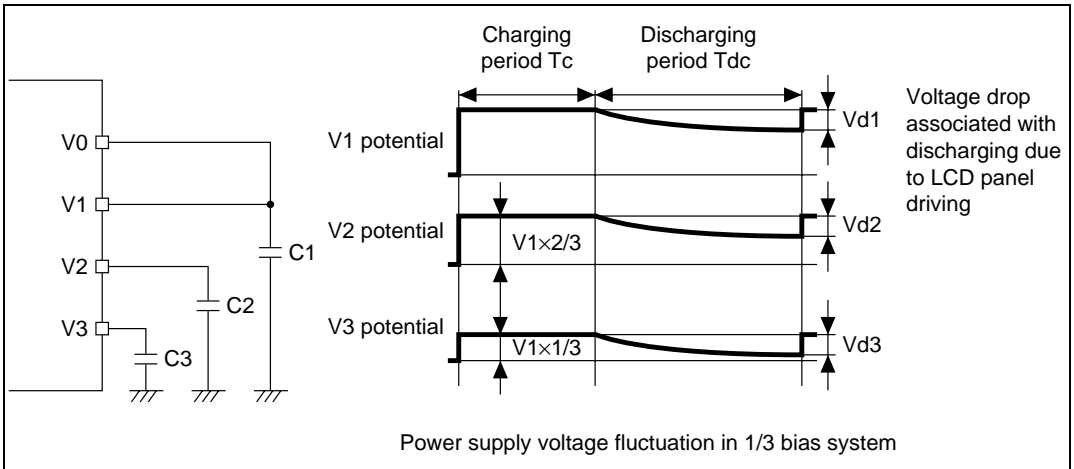

Figure 13.14 Example of Low-Power-Consumption LCD Drive Operation
1. Capacitors are connected as external circuits to LCD power supply pins V1, V2, and V3, as shown in figure 13.14.
2. The capacitors connected to V1, V2, and V3 are repeatedly charged and discharged in the cycle shown in figure 13.14, maintaining the potentials.
1. During charging period T_c in the figure, the potential is divided among pins V1, V2, and V3 by the built-in split-resistance (the potential of V2 being 2/3 that of V1, and that of V3 being 1/3 that of V1), as shown in figure 13.14, and external capacitors C1, C2, and C3 are charged. The LCD panel is continues to be driven during this time.
4. In this way, the capacitors connected to V1, V2, and V3 are repeatedly charged and discharged in the cycle shown in figure 13.14, maintaining the potentials and continuously driving the LCD panel.